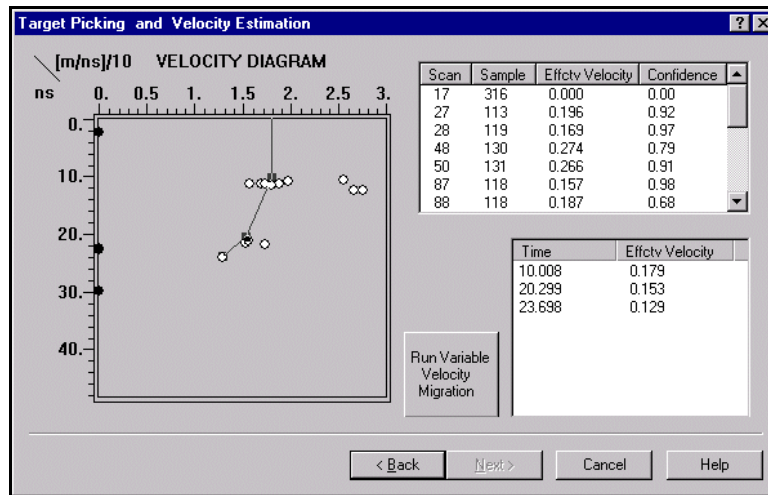

Figure 151: Migration Velocity profile.
- 1** Double-click in the left pane to create a velocity profile. The profile is constructed by selecting a point in the upper level of clustered plotted points (with high confidence, i.e., white), double-clicking, then proceeding down defining the curve as a function of point-velocity cluster (see Figure 151).